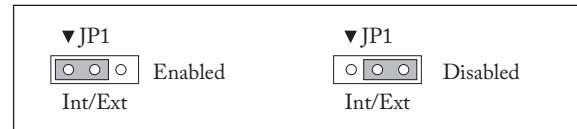

fig. 2
3. Install the heater in a horizontal or vertical duct in an approved installation position as shown in Fig. 2.
The heater can be installed in a horizontal or vertical duct. Figure 2 shows permitted and prohibited installation / mounting positions.